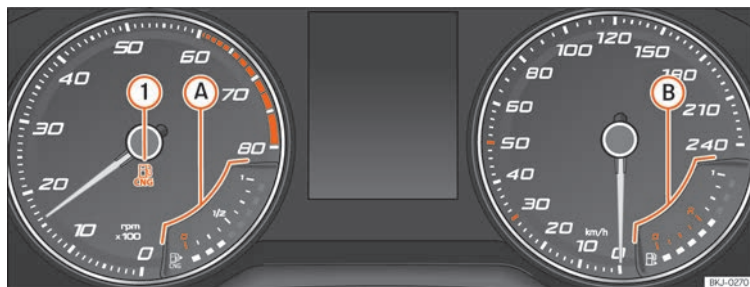

Fig. 74 Analogue instrument panel: natural gas gauge
It lights up green »» Fig. 74 ①